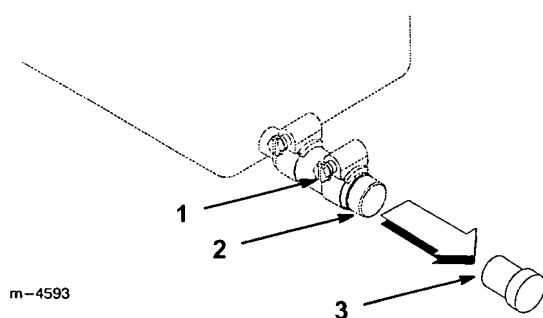

Figure 23
4. Place a pan under the oil drain tube (Fig. 23).
5. Loosen the clamp and remove the plug (Fig. 23).